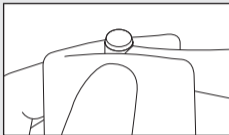
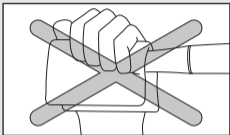

Fig. 14
Fig. 15
- If you wish to purge excessive oil from inside the handpiece, rotate the handpiece for approx 15 seconds without a bur. During the rotation, do not depress the push button, especially when using absorbent cloth to prevent oil from scattering. Depressing the push button during rotation may damage the chuck mechanism (Fig. 14, Fig. 15).